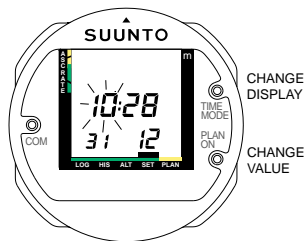
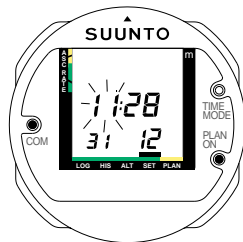

Fig. 4.12 TIME SETTING
Fig. 4.13 TIME SETTING
1. Activate the Time Setting mode by connecting the TIME/MODE and COM contacts continuously to scroll through the menu. Release your fingers immediately when Set appears on the display. The Time Setting display will now be shown (Fig. 4.12).
2. The hour display starts to blink immediately (Fig. 4.12). If you want to change it, keep the PLAN/ON and COM contacts connected. The hours will start to scroll (Fig. 4.13). Release your fingers immediately when the correct value is displayed. [To change the A or P for a.m. or p.m. scroll the hours past 12:00].